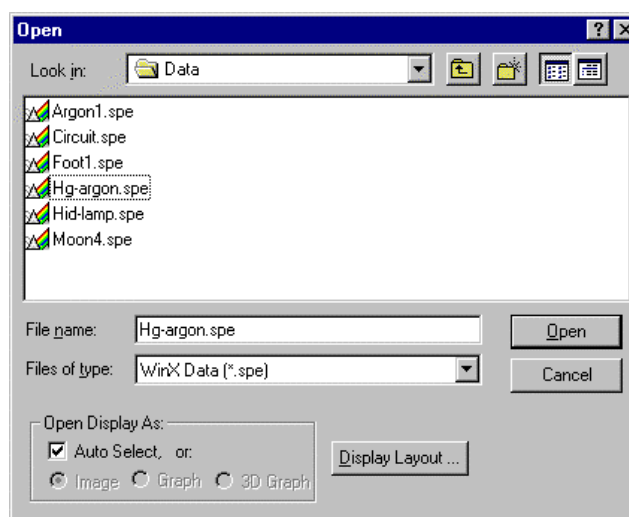

Figure 78. Open dialog box
1. From the File menu select **Open**. The Open dialog box (Figure 78) will appear, allowing you to select the image to be opened. The Look-In box provides a browser function so that the directory where the images are located can be easily accessed. By default the data directory is a subdirectory of the WinSpec program directory. Files of the specified type (the WinSpec/32 data type is *.spe) in the current directory and any subdirectories are listed in the box below the directory name.